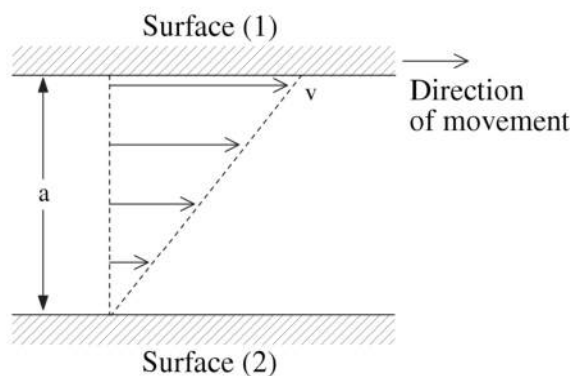

Figure 2
In Figure 2, the space between the surfaces of two parallel plates is filled with a fluid. Surface (2) is stationary, while surface (1) is moving in the arrow direction at a constant speed (velocity) expressed by  $v$ .
Furthermore, provided that the velocity is relatively low, so that no eddies are formed, the fluid will flow in layered sections that are parallel to the enclosing surfaces, and the velocity increases proportionally with the distance from surface (2). This velocity distribution is shown by the dotted line in the Figure 2.